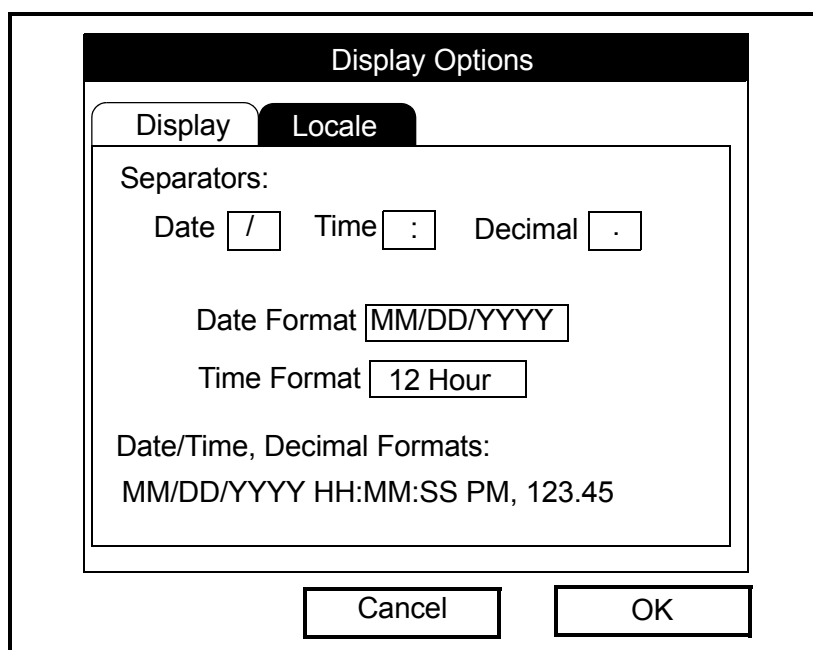

Figure 3-14: *Locale* Tab Window
2. Scroll to the *Locale* option and press [ENTER]. The *Locale* tab of the *Display Options* window opens (see Figure 3-14 below).